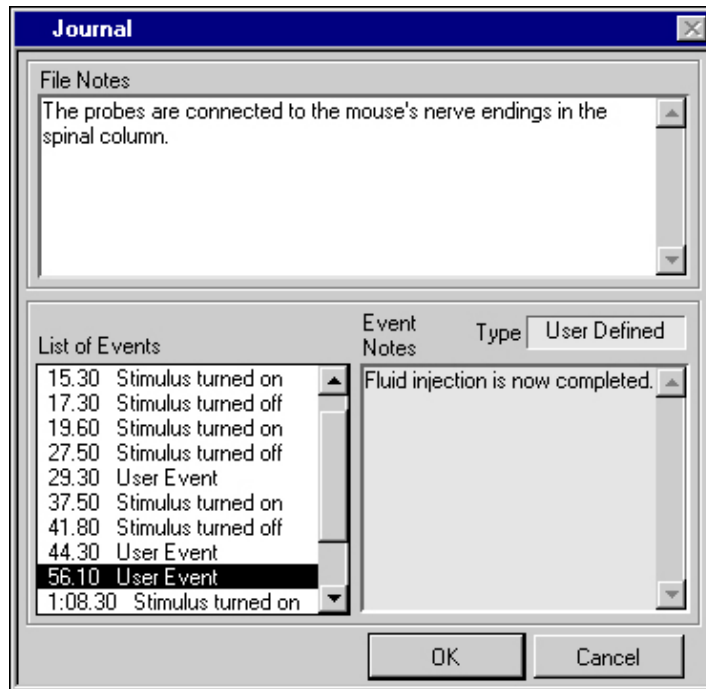

Figure 3-2. Journal Dialog Box
- **Journal**—Clicking on this button displays the DataLab 2000 electronic journal where you can enter file notes during data acquisition. The journal also displays all events associated with a file, such as stimulus, data log, and user-defined events. Figure 3-2 shows the Journal dialog box. The following controls appear in the Journal dialog box: